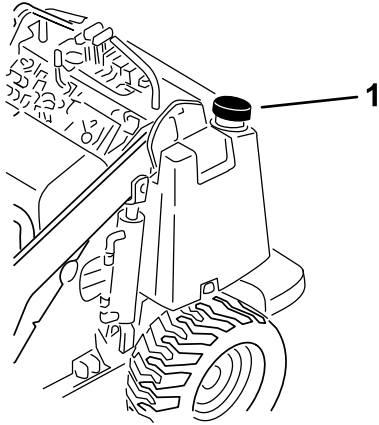

Figure 11
3. Clean around the fuel-tank cap and remove it (Figure 11).